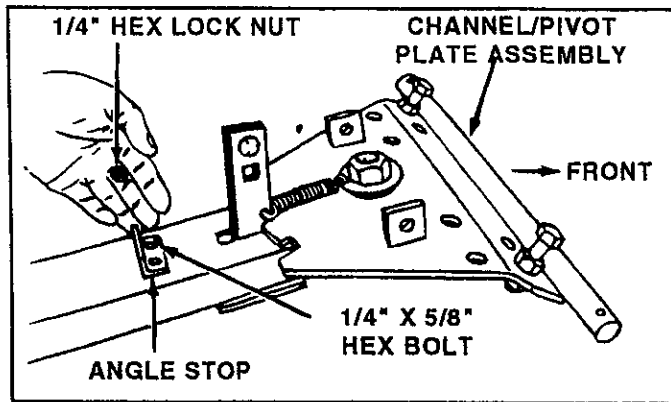

FIGURE 5
4. Assemble angle stop to top of channel using one 1/4" x 5/8" hex bolt down through left hand hole, and one 1/4" hex lock nut under channel. See figure 5. Do not tighten at this time.